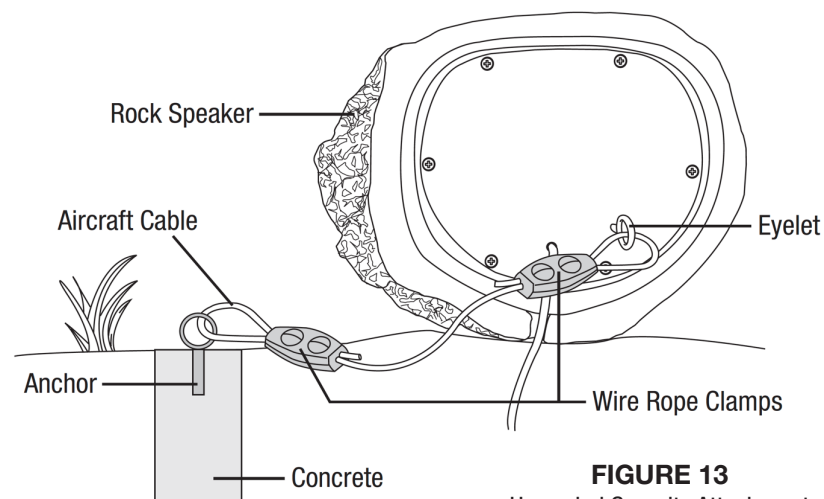

FIGURE 13
- Loop this end of the aircraft cable around the eyelet and back to the aircraft cable. Secure this end of the cable to the main aircraft cable with the wire rope clamp. The upgraded attachment should now look like **Figure 13**.